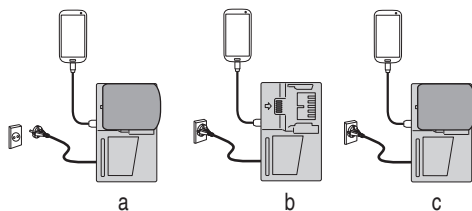

Fig. 12
- Charging a USB device by battery (Fig. 12-a)
- Charging a USB device from a electrical outlet (Fig. 12-b)
- Charging a USB device and battery from a electrical outlet (Fig. 12-c)